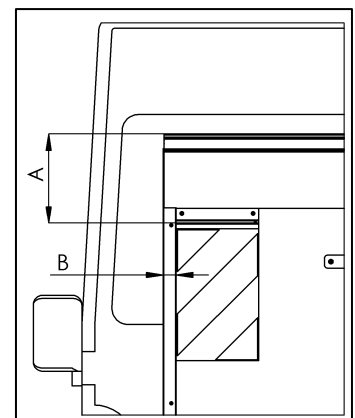
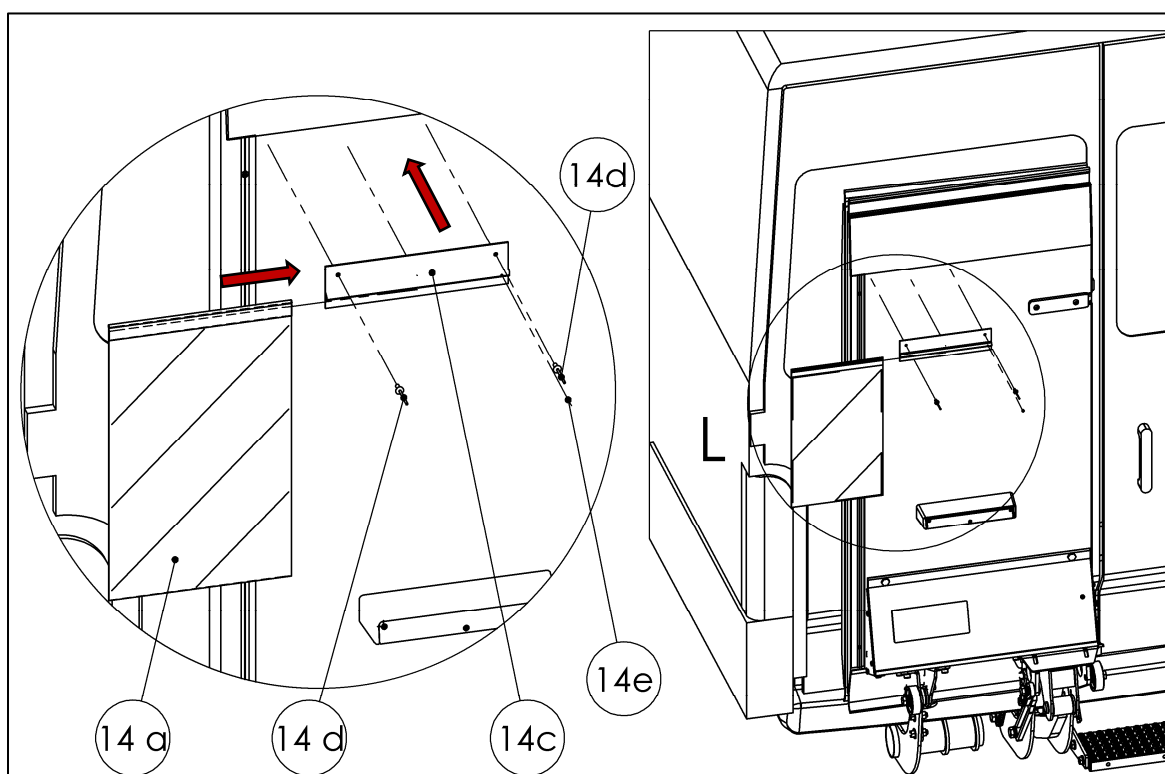
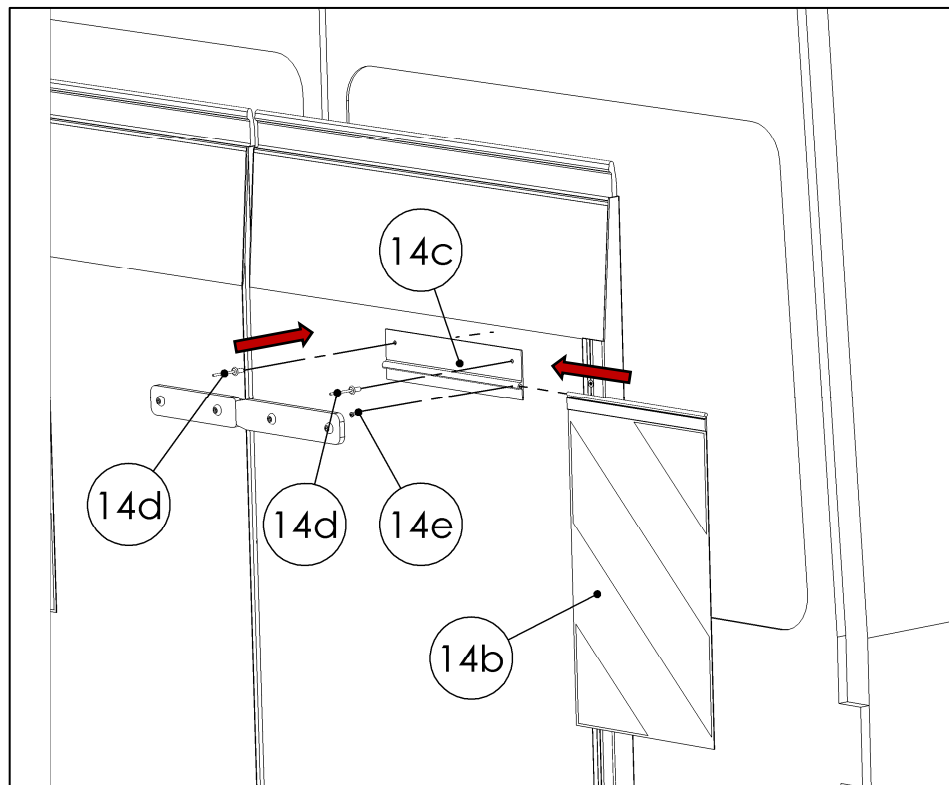

Fig. 64
Fig. 65
Fig. 66
- Remove the warning flag kit (14, Part No. 60 710 330) from the accessories kit and mount it in accordance with the installation instructions below (Fig. 64, Fig. 65, and Fig. 66).
**IMPORTANT: Mounting specifications: Comply with these mounting specifications** (see Fig. 64):
- IMPORTANT:** Identify the left warning flag (14a) by the angle of the pattern (see Fig. 65)
- IMPORTANT:** Identify right warning flag (14a) by the angle of the pattern (see Fig. 66)